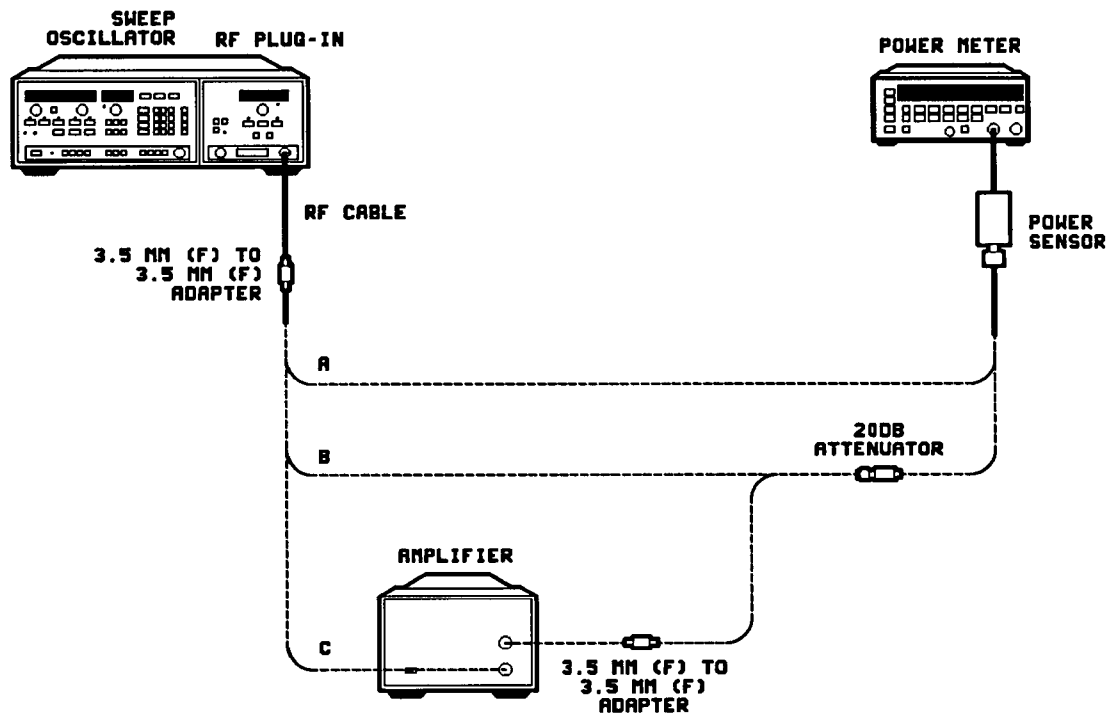

Figure 4-2. Small Signal Gain Test Setup
- a. Connect the equipment as shown in Figure 4-2, point **A**, with the power sensor connected to the 3.5 mm(f) adapter (without the amplifier, the second 3.5 mm(f) adapter, or the 20 dB attenuator).
- a. Connect the 20 dB attenuator between the adapter and the power sensor, as shown in Figure 4-2, point Ⓑ.
- a. Connect the equipment as shown in Figure 4-2, point Ⓒ, with the amplifier and the second 3.5 mm(f) adapter connected between the first 3.5 mm(f) adapter and the power sensor (you must use the same 20 dB attenuator as in the previous steps).